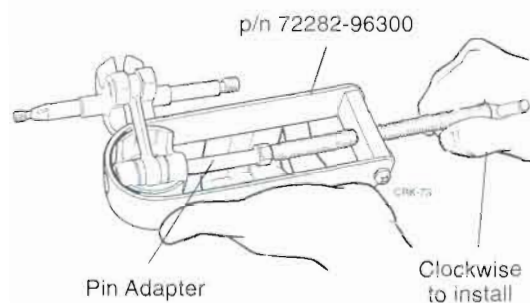

Figure 7.17 Using a Puller Tool
- Use pin puller tool p/n 72282-96300 and the appropriate push pin to assemble the pin to the piston (Figure 7.17)